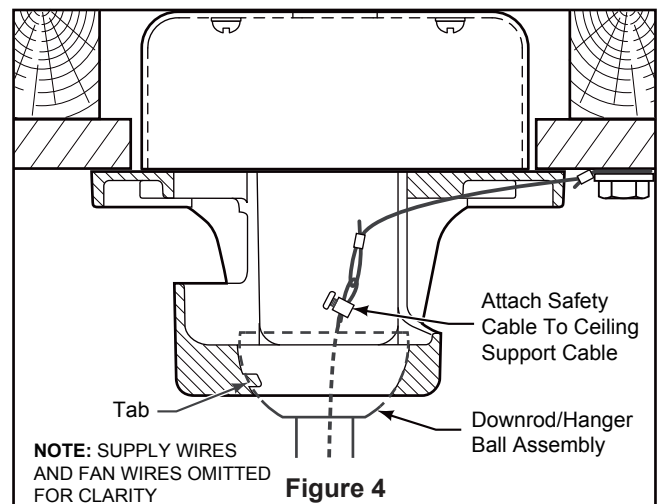

Figure 4
4. Slide downrod into the downrod support on top of the motor. Install the clevis pin by aligning the holes in the downrod support with holes in the downrod. Secure clevis pin with hairpin clip. Tighten the two set screws with nuts in the downrod support. (Figure 4)
4. Carefully lift the fan and seat the downrod/hanger ball assembly onto the hanger bracket that was just attached to the outlet box. Be sure the groove in the ball is lined up with tab on the hanger bracket. (Figure 4)
5. Attach the safety cable to ceiling support cable. Slide cable clamp and washer onto safety cable (from fan). Place the end of cable through the loop of ceiling support cable. Pull as much cable through loop as possible. Feed end of cable into clamp hole and firmly tighten screw. (Figure 4)
3. Connect wires using connectors as shown in Figure 4.
- 4. Assemble the LED assembly to the light kit assembly using the screws removed in Step 3A. (Figure 4)
- 4. To make fan operational, install two 3V batteries (included) in hand-held remote transmitter, with fan power off. Then, follow the remote code setting process. If not used for long periods of time, remove battery to prevent damage to transmitter. Store the remote away from excessive heat or humidity. (Figure 4)